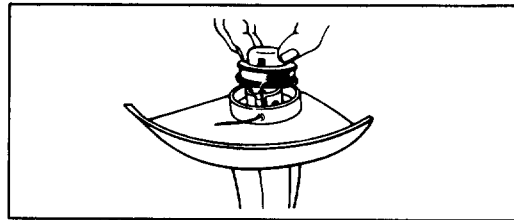

Figure 17
- D. The spool and the core are keyed. Be sure they are properly aligned when putting spool back on. Thread end of line through eyelet, place spool on keyed core, and push in place until you hear it click. Pull line free from groove in spool. Unwind no more than 3 inches from spool (Fig. 17).